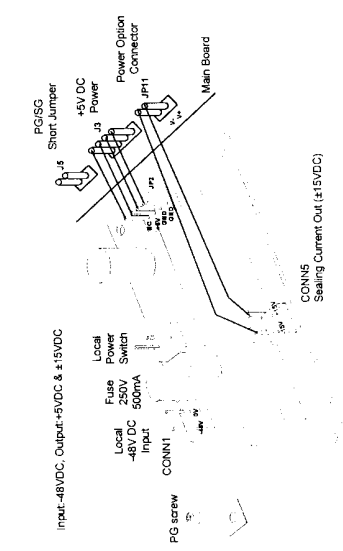

Fig 4-7 NS-620P2, DC power module with sealing current source
• **NS-620P2/P3/P4: DC Power Supply Module (Fig.4-7,4-8,4-9)**